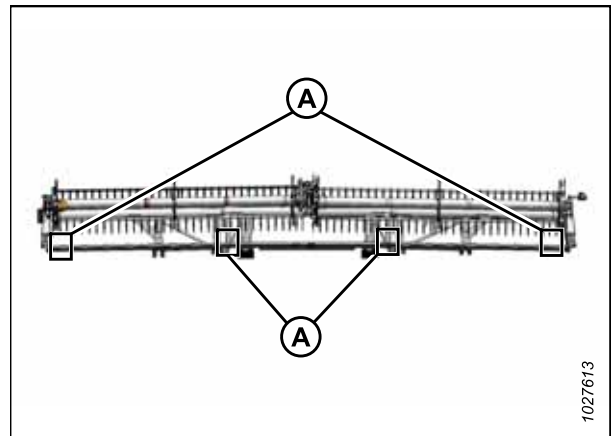

Figure 4.265: FlexDraper® Measurement Locations – Double Reel
- Double-reel headers: Figure 4.265, page 723